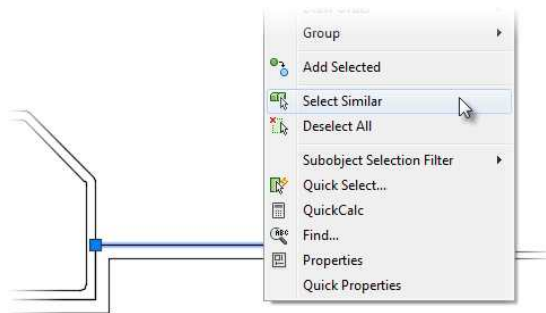

FIGURE 6.29: Choosing the Select Similar right-click menu option after selecting a single wall line
2. Select any line currently drawn on layer 0 that represents a wall within your cabin (see Figure 6.29).
3. Being careful not to deselect the line on layer 0, right-click and select the Select Similar option, as shown in Figure 6.29. The Select Similar command selects all of the lines on layer 0.